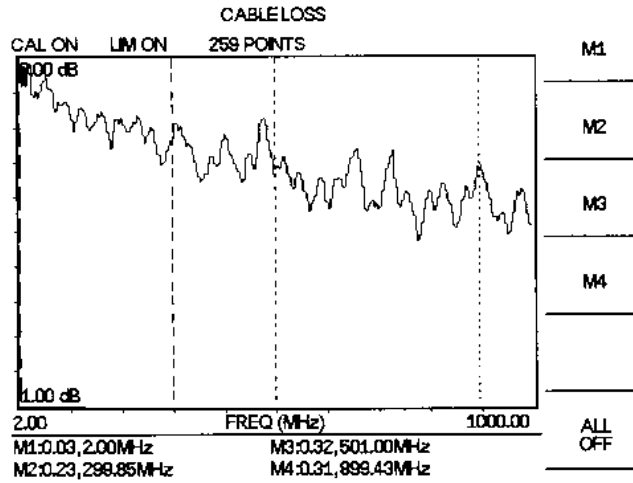

Figure 4-7. Cable Loss Measurement Results
Step 36. Repeat steps 34 and 35 for markers M2, M3 and M4. Set M2 to 300 MHz, M3 to 500 MHz and M4 to 900 MHz (Figure 4-7 depicts a Cable Loss measurement).